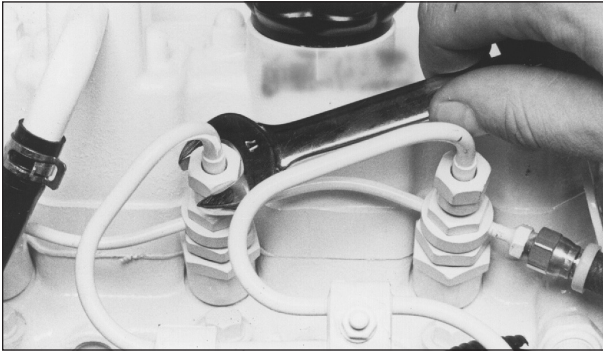

Figure 8: Remove delivery line flare nuts.
- b. Relieve high pressure in the fuel lines by loosening the delivery line flare nuts at each injector (Figure 8).